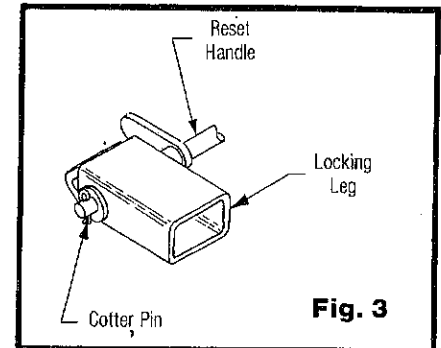

Fig. 3
19. Attach locking leg to superstructure with $\frac{3}{8}$ " bolts supplied. Adjust connection so that leg is parallel with frame base. Install leg release handle per Fig. 3. Lubricate release handle and upper hinge of leg.